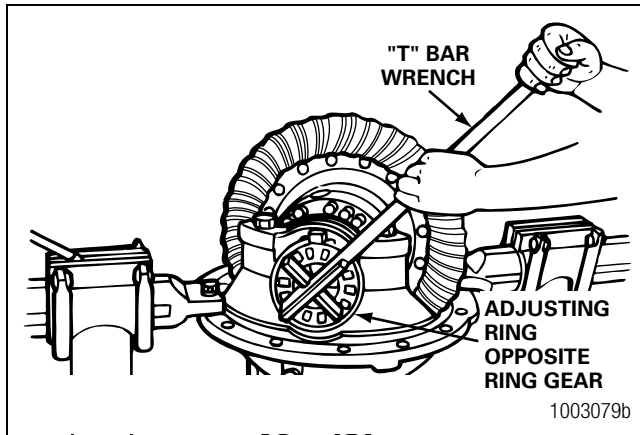

Figure 5.54
2. Use a "T" bar wrench to loosen the bearing adjusting ring that is opposite the ring gear. A small amount of end play will show on the dial indicator. Figure 5.54.